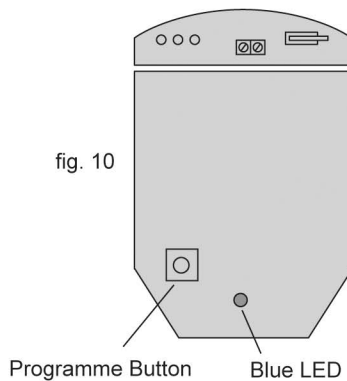

fig. 10
- The user can individually program a number of configurable settings as illustrated in the programming chart. Factory settings are shown as shaded boxes. Changes to the existing settings can easily be made. To reset the factory settings simply remove power from the detector, press and hold the program button (fig. 10) while temporarily applying power to the detector either before installation, with a 9 Volt battery, or by applying 12 Volts to the unit on site.
- 1) Press the program button as shown in fig. 10 for the number of the Option to be changed i.e. once for range, twice for pulse count, three times for LED.